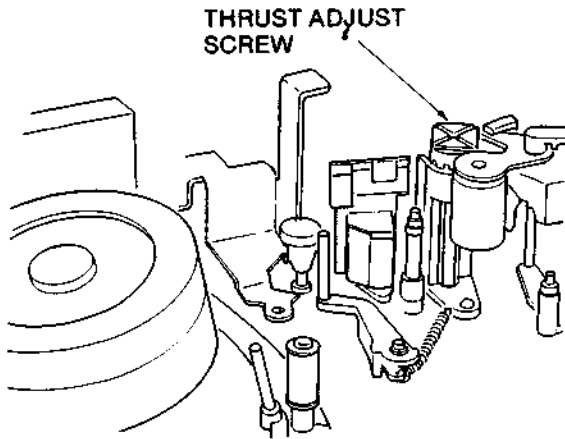

Fig. 2-8
- Turn the thrust adjust screw pos. no. 41(1) slightly until the capstan rotor unit just touches the coil of the capstan stator unit, see Fig. 2-8